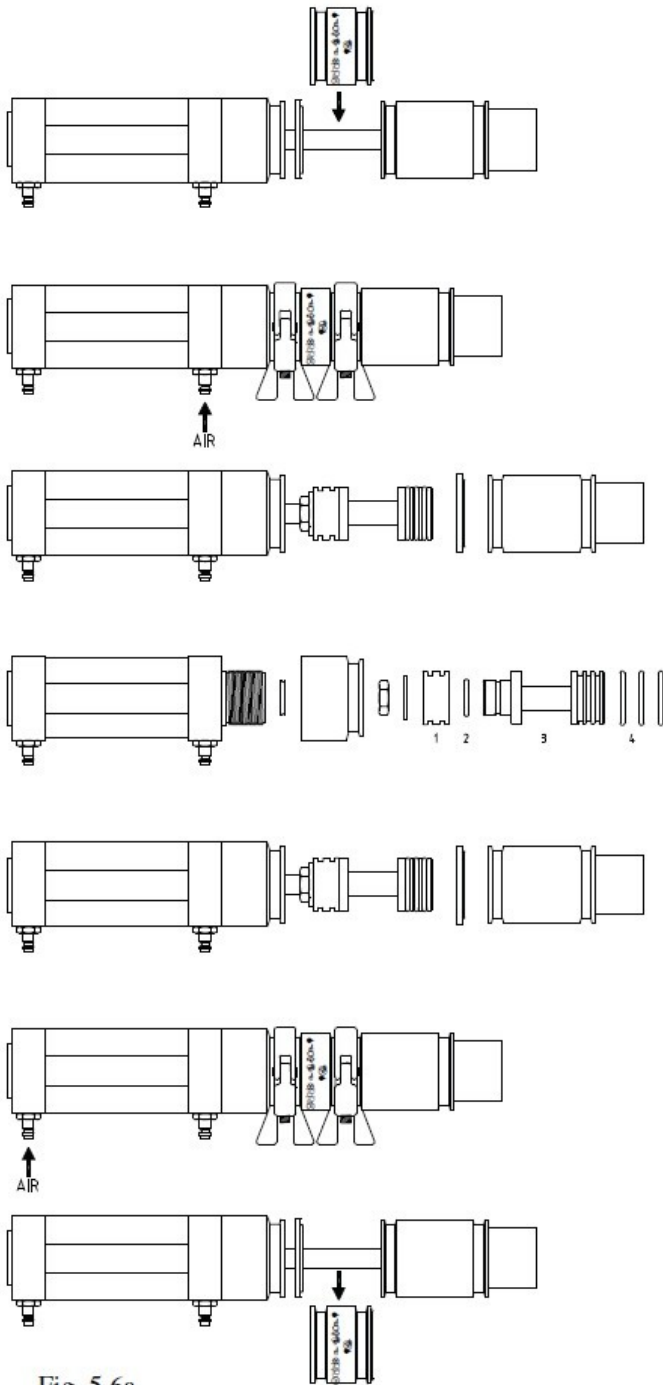

Fig. 5.6a
Replace the seals on the plunger (3 in fig 5.6a), 3x Viton large (4), 1 Viton small (2) and 1 Teflon (1). Loosen the black protection cover from the cylinder to replace the x-ring on the axle.